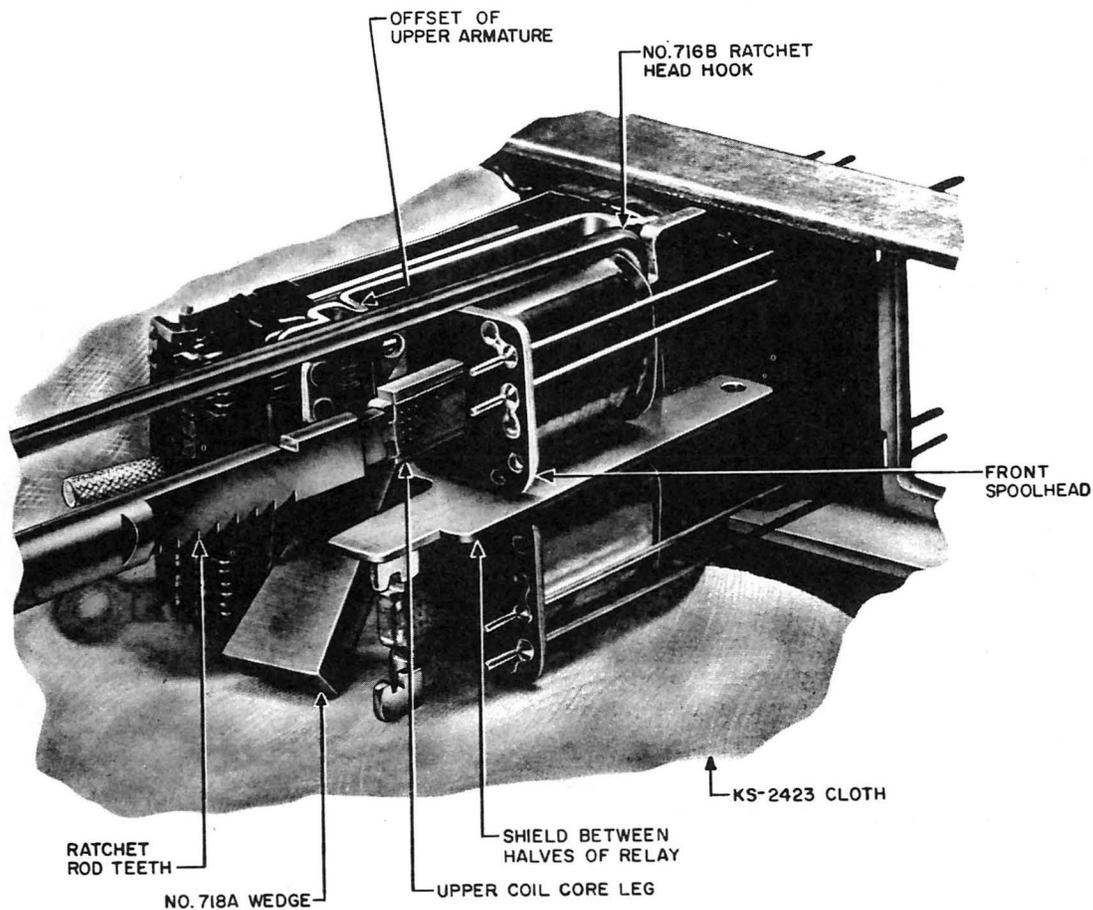
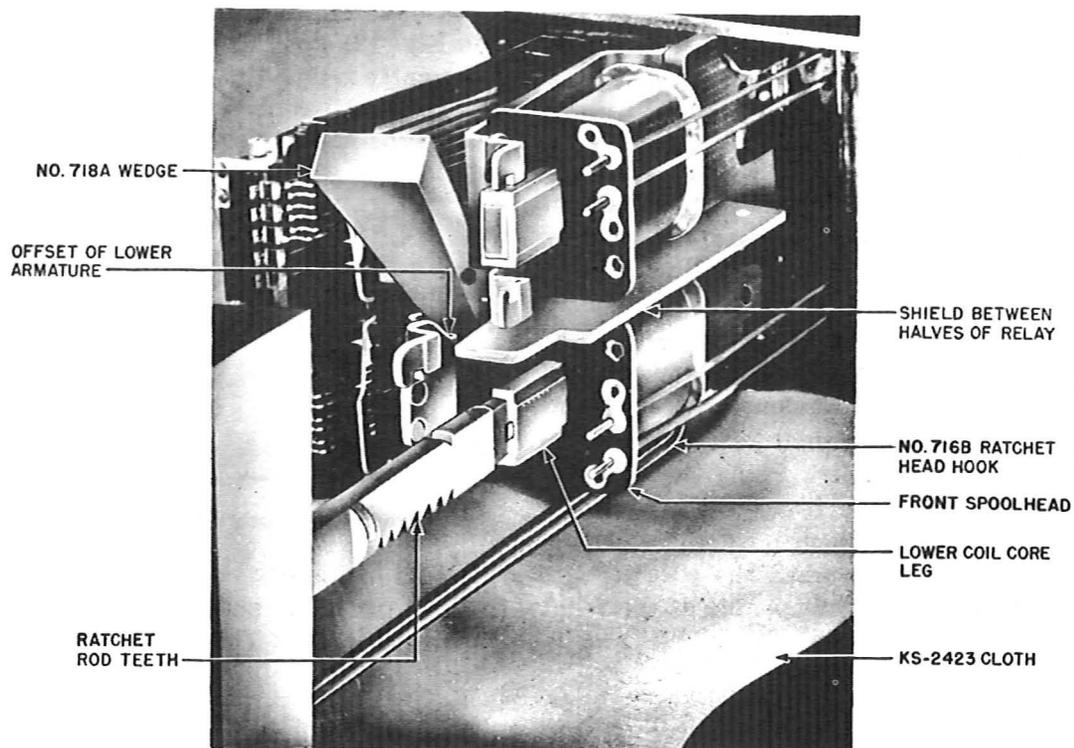

Fig. 10 - Removing Upper Coil
Fig. 11 – Removing Lower Coil
- (b) Place a KS-2423 cloth as shown in Fig. 10 to insulate adjacent apparatus before inserting the No. 718A wedge as covered in (c).
halves of the relay as shown in Fig. 10 if the upper coil is to be removed and as shown in Fig. 11 if the lower coil is to be removed. To position the wedge for removing the upper coil, manually move the upper armature to the left. Referring to Fig. 10, insert the wedge with the straight side against the shield and the small end toward the rear of the relay. Move the wedge diagonally upward, behind the offset in the armature adjacent to the front spoolhead, to the position shown in the figure. Insert the wedge sufficiently to permit removal of the coil without interference by the front of the armature. The wedge is positioned for removing the lower coil in a similar manner except that the lower armature is moved to the left and the wedge is inserted from above the shield as shown in Fig. 11.
716B ratchet head behind the rear spoolhead of the coil with the ratchet rod in line with and against the core leg as shown in Fig. 10 for removing the upper coil and as shown in Fig. 11 for removing the lower coil. To do this, hold the tool horizontally with the hook facing to the right. If the upper coil is to be removed, insert the hook above this coil with the tip of the hook approximately in line with the right side of the core leg and just behind the rear spoolhead. Then rotate the tool 90 degrees clockwise and draw it forward so that the hook engages the rear spoolhead and rests against the right side of the core leg. If the lower coil is to be removed, position the hook in a similar manner by inserting the hook below the lower coil and rotating it 90 degrees